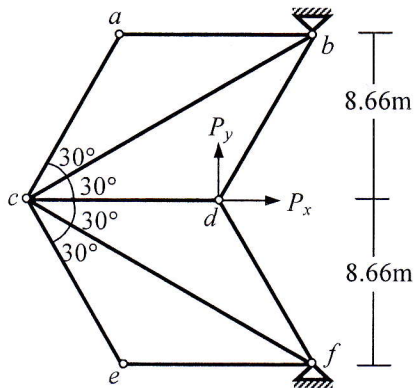

Fig. 1
1. Fig. 1 shows a plane truss $abcdef$ whose joint d deflects 10-mm to the right and 10-mm upwards due to the applied forces. Use the Stiffness Method to calculate the applied forces (P_x , P_y) and deflections at joint c [Given: $S_x = EA/L = \text{constant} = 5 \text{ kN/mm}$].